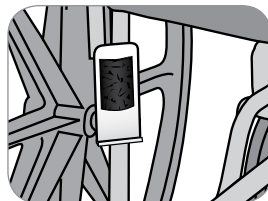
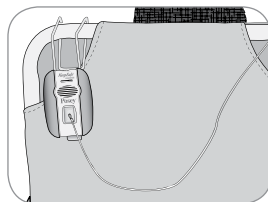

Fig. 15
Fig. 17
Use Saddle Bracket (Cat. 8278N) to attach alarm to a wheelchair (figs. 15 and 16). Use Wire Bracket to attach alarm to a Geri-chair frame (fig. 17).
2. Wrap the saddle strap firmly around the wheelchair frame (fig. 15).
3. Attach the bracket to the back of the geri-chair by pulling the wire away from the alarm to create an opening wide enough to fit over the geri-chair (fig. 17). Slide the bracket onto the geri-chair and push down to ensure a snug fit.